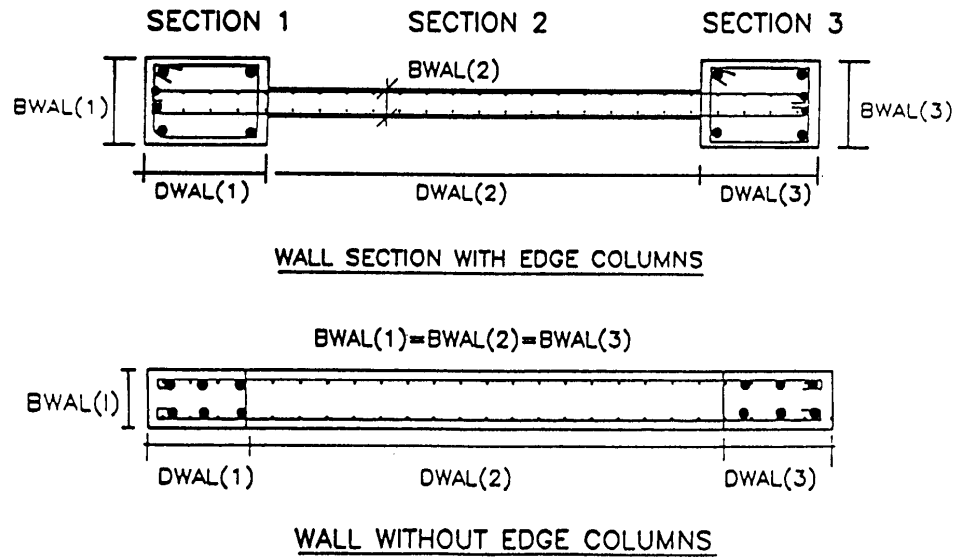

Fig. A-12 Typical Input Details for Shear Wall Sections
**SET F: SHEAR WALL PROPERTIES SETS** (SEE FIGURES A-12 AND A-13)